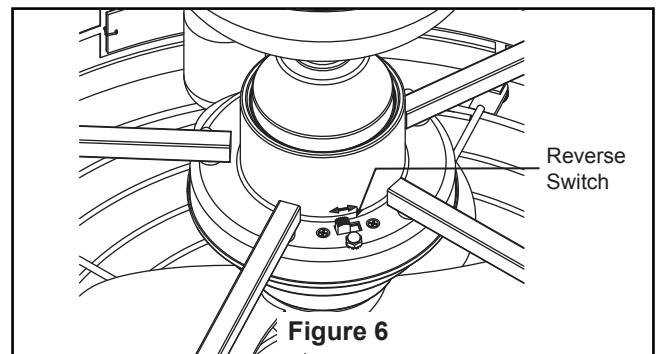

Figure 6
6. If airflow is desired in the opposite direction, turn the fan off and wait for the blades to stop turning. Slide the reverse switch on the motor assembly to the opposite position and turn fan on again. (Figure 6)